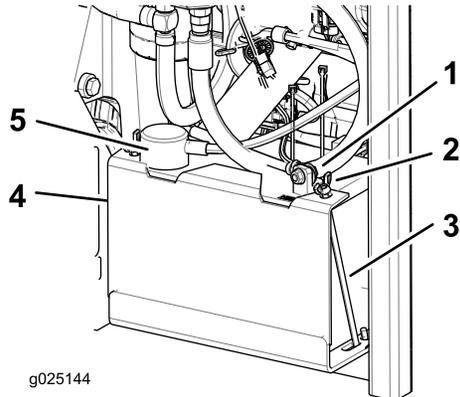

Figure 46
3. First disconnect the negative battery cable (black) from the negative (black) battery terminal (Figure 46).
4. Slide the red terminal boot off the positive (red) battery terminal and remove the positive (red) battery cable (Figure 46).
5. Remove the wing nuts securing the J-hooks (Figure 46).
6. Remove the clamp (Figure 46).
- Position battery in the tray with the terminal posts opposite from the hydraulic tank (Figure 46).
- Secure the cables with 2 bolts, 2 washers, and 2 locknuts (Figure 46).
- Install the clamp and secure it with the wing nuts and J-hooks (Figure 46).